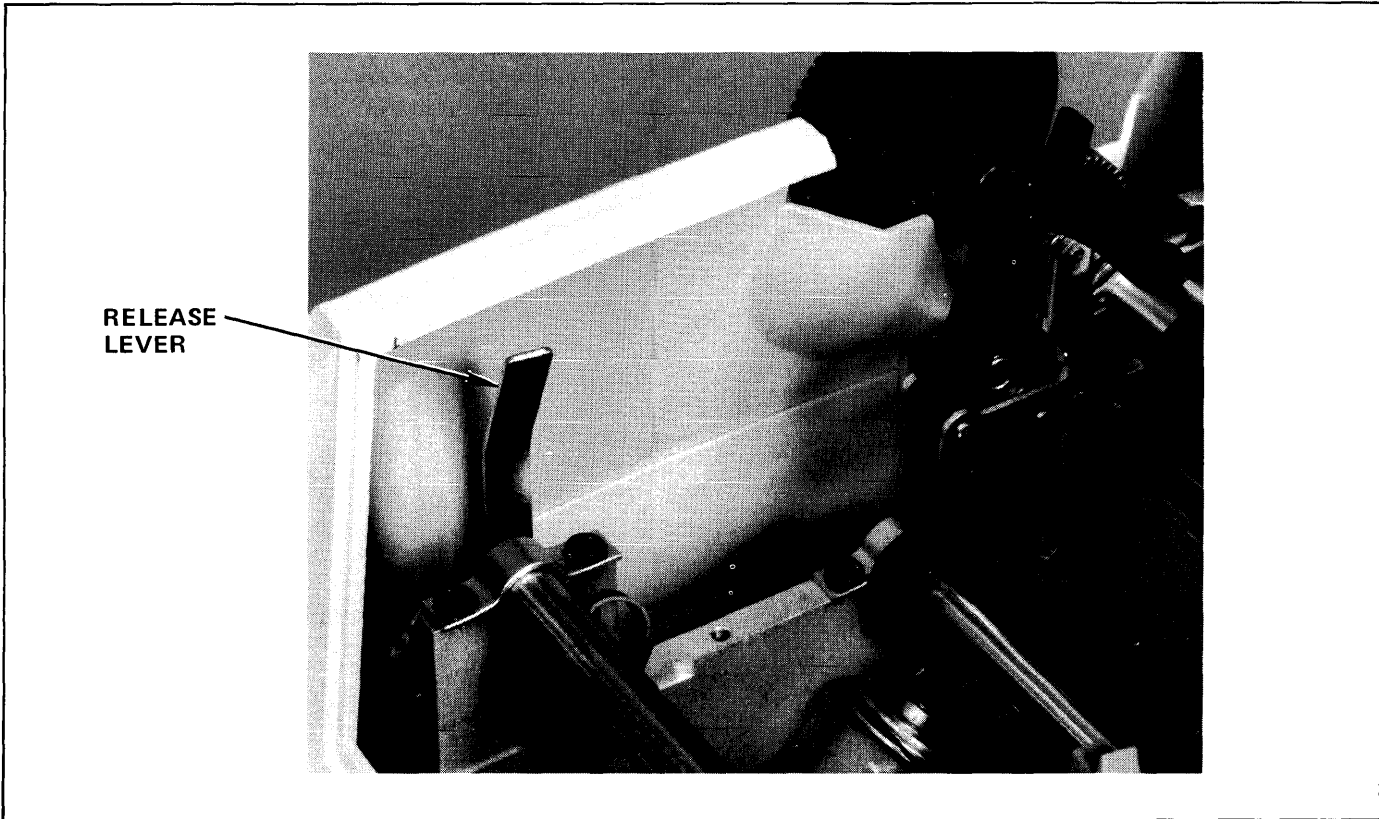

Figure 5-1. Top Cover Release Lever
- (1) Make sure the power cord is disconnected from the wall.
- (2) Remove the forms tractor if one is installed.
- (3) Remove the platen (2.4.3.1).
- (4) Remove the printer top cover: release the two latches inside the cover at both sides, just in front of the platen (Figure 5-1), and lift the cover off. Set the cover safely aside.